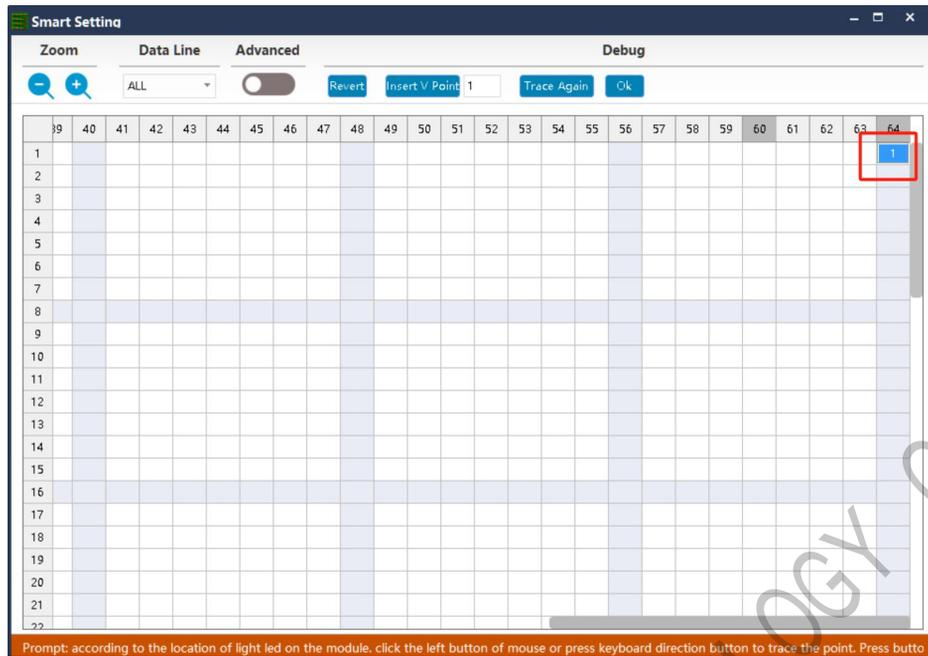

Figure 4-2-1-6
(7) Smart settings will be prompted after the completion of the window, and then click the 'trace complete' button, and then send the data to the screen, as shown in Figure 4-2-1-6.